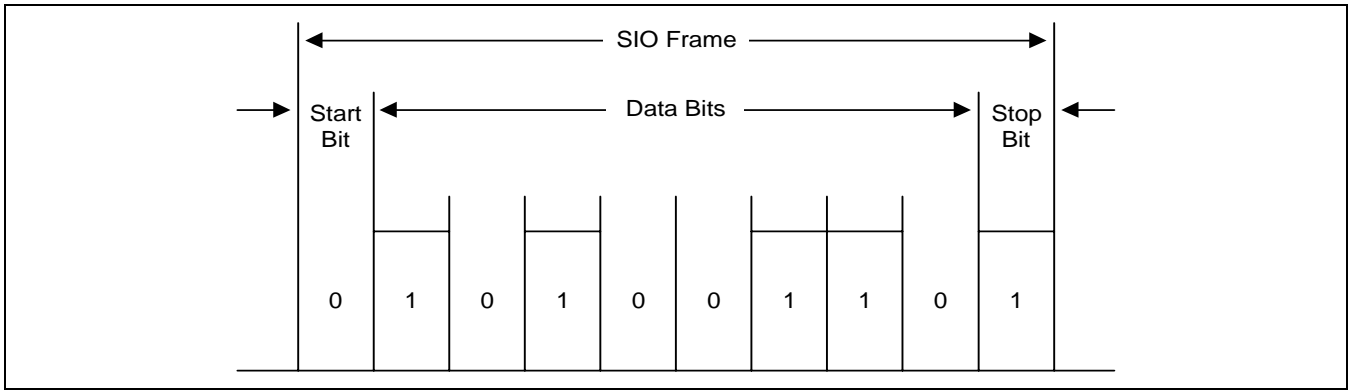

Figure 11-4. Serial I/O Frame Timing Diagram (Normal UART)
The S3C2440A UART block supports infrared (IR) transmission and reception, which can be selected by setting the Infrared-mode bit in the UART line control register (ULCONn). Figure 11-4 illustrates how to implement the IR mode.